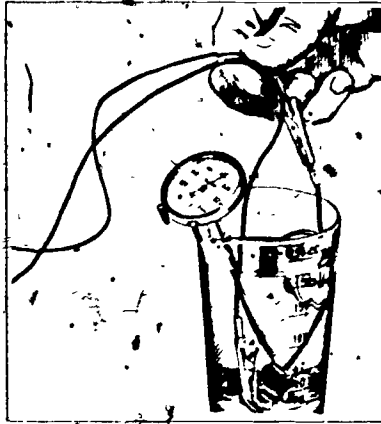

FIGURE 4
3. Connect test light or ohmmeter to heat switch (Figure 4)